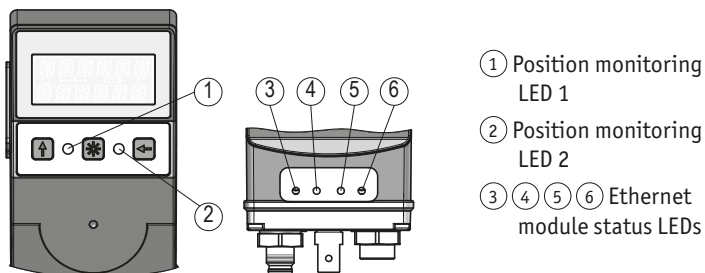

Fig. 4: Operating elements
The LEDs ③ ④ ⑤ ⑥ (see Fig. 4) inform about the status of the Ethernet module. For a description of the functions of the module status LEDs refer to the relevant user manual.